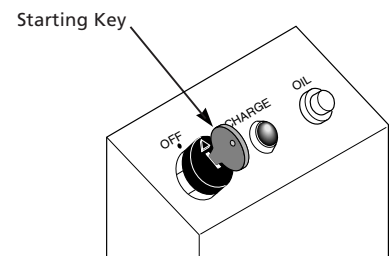

Figure 21 - Starting Key
- (3) Turn the starting key clockwise to the START position (See Figure 21). Hold it there until engine starts.